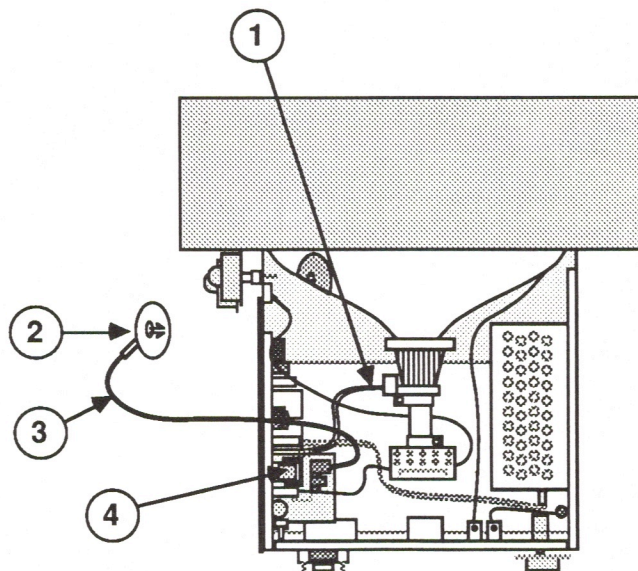

FIGURE 3
- The yoke wires (Figure 3, #1)
- The anode connector (Figure 3, #2)
- The anode wire (Figure 3, #3)
- The flyback transformer (Figure 3, #4)